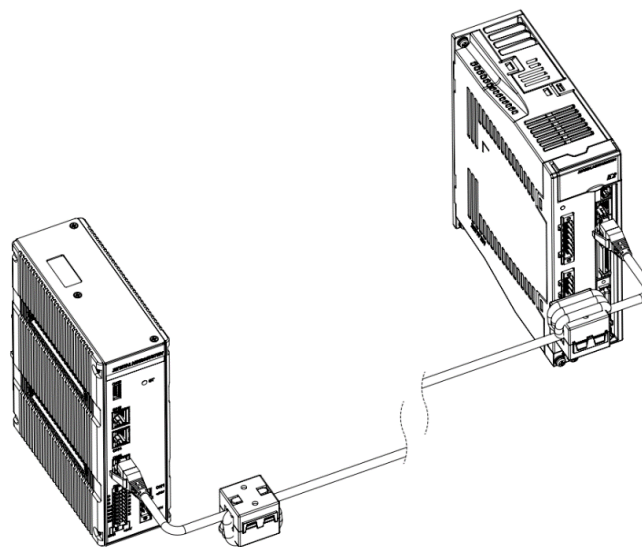

Figure 3.1.3 Installation location for magnetic ring
- The installation location should be as close as possible to the input and output ports of the device, or other places prone to interference, as Figure 3.1.3 shows.